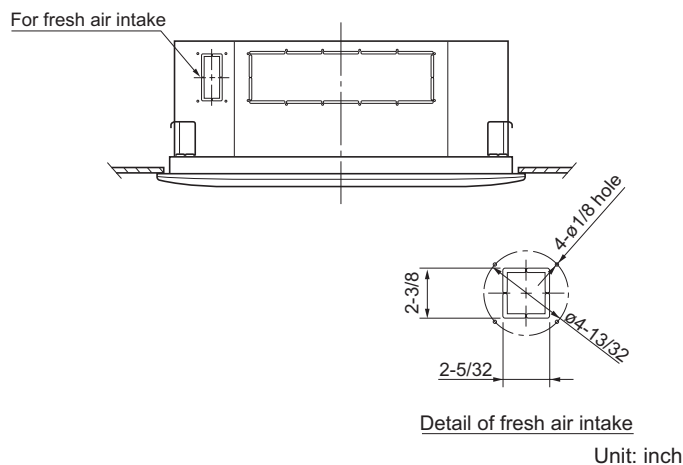

Fig. 3-16
- There is a duct connection part on side of the indoor unit. (Fig. 3-16)